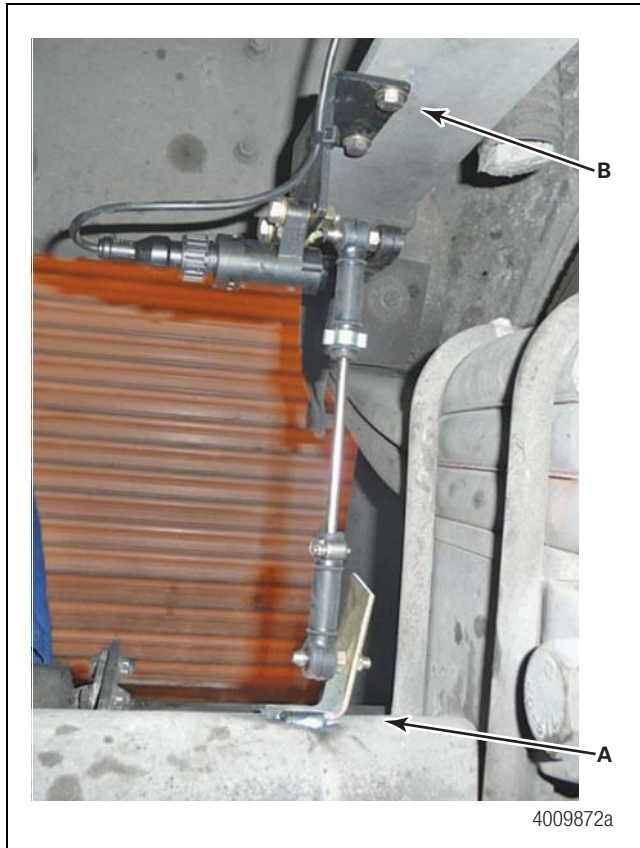

Figure 6.17
1. With the trailer **unloaded**, measure from the top of the axle tub (A) to a fixed point (B) on the underside of the trailer. Note the distance. Figure 6.17.